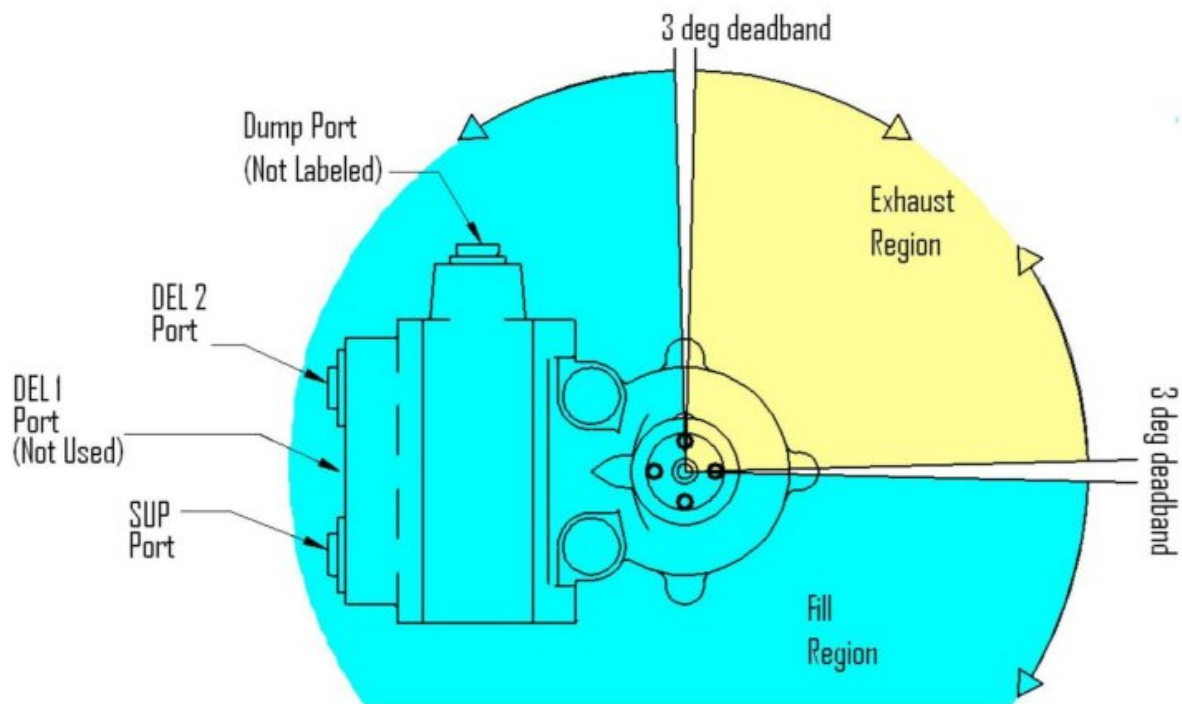

Figure 1-1
4. To ensure HCV is working properly, disconnect the linkage from the control arm and raise the control arm approximately 20 degrees above horizontal. Air pressure should inflate the air springs and raise the suspension. **Refer to Figure 1-1.**
2. Verify proper Drive Collar Indicator Orientation & Flow Paths (Refer to Figure 1-1.)